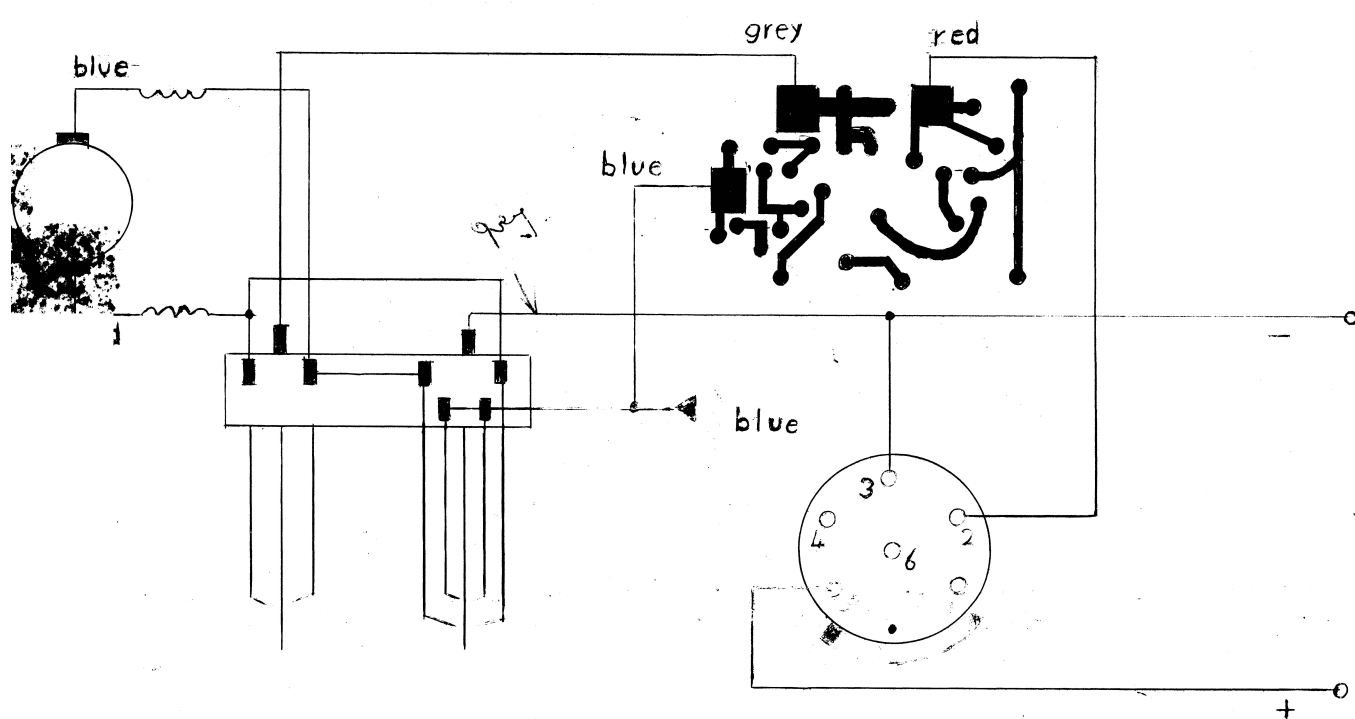

Fig. 2
- k. Then connect the switch and the motor as indicated in Fig. 2.